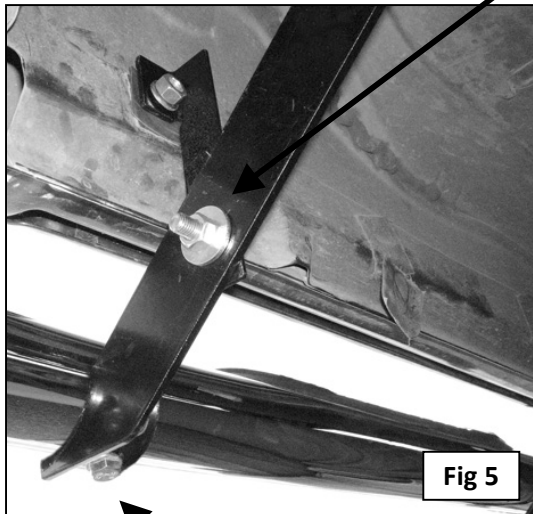

Fig 5
9. With assistance, carefully position the driver Sidebar onto the Mounting Brackets. Partially attach the Sidebar to the front and rear Mounting Brackets with the included (4) 8mm x 25mm Hex Head Bolts, (4) 8mm Lock Washers, and (4) 8mm Flat Washers, **(Figure 5)**. Do not tighten hardware at this time.